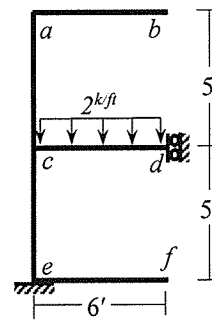

Fig.6
6. Use Stiffness Method considering geometric nonlinearity and flexural deformations only to calculate the unknown rotation at c and deflection at d of the frame $abcdef$ loaded as shown in **Fig.6**